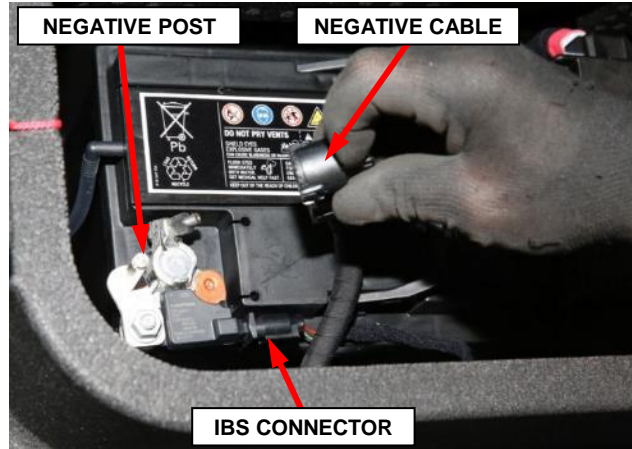

Figure 2 – Battery Negative Terminal
16. Press the release button and disconnect the negative battery cable from the post. If equipped with an Intelligent Battery Sensor (IBS), disconnect the IBS connector (Figure 2).